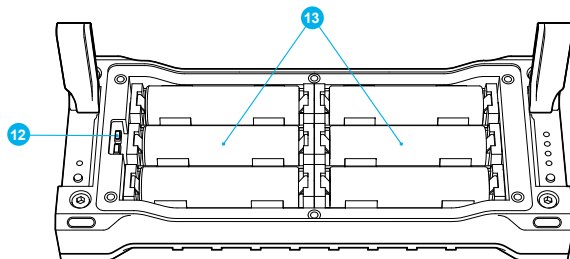

Fig. 1
### APPEARANCE AND CONTROLS (Fig. 1)
3. Activate the battery pack controller by briefly connecting the charger to the battery pack or by pressing the activation buttons (12, Fig. 1, p. 3) inside the battery pack.